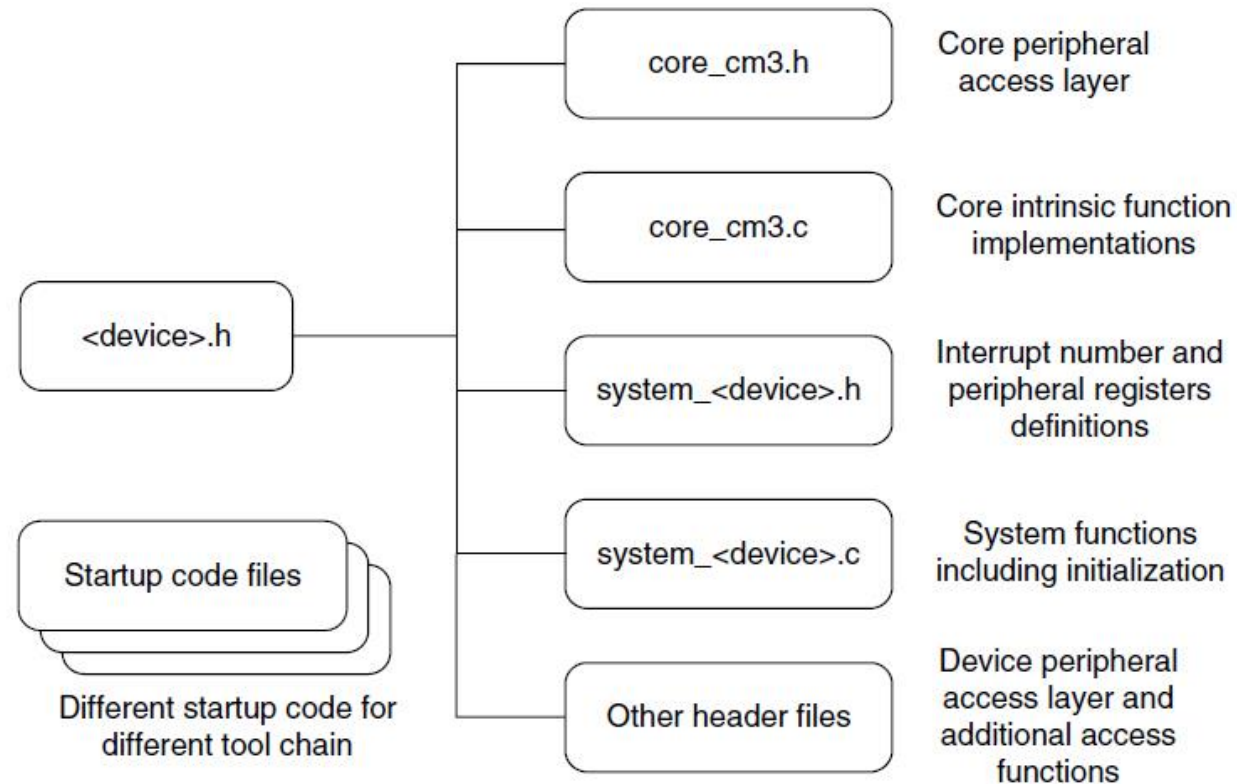

FIGURE 10.8
- For each MCU device, the MCU vendor provides a header file, which pulls in additional header files required by the device driver library, including the Core Peripheral Access Layer defined by ARM (as shown in Figure 10.8).